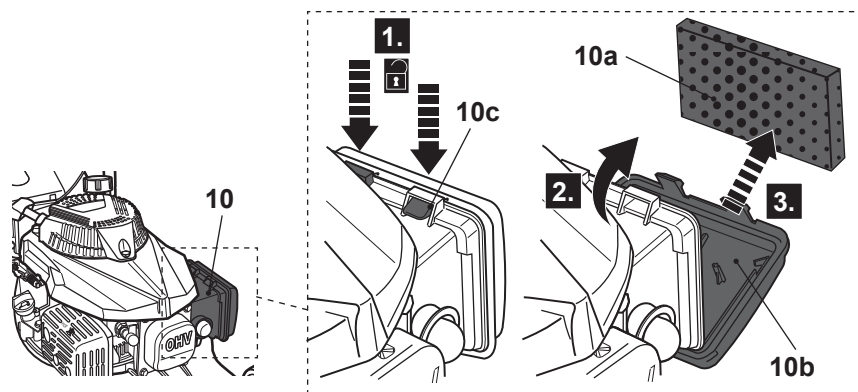

Fig. 21
2. Press the latches (10c) downwards to disengage and open the cover (10b) (Fig. 21).
4. Apply a small amount of foam air filter oil on the air filter (10a) to increase its performance. Wipe out surplus oil and put the air filter (10a) back into the air filter case (10).